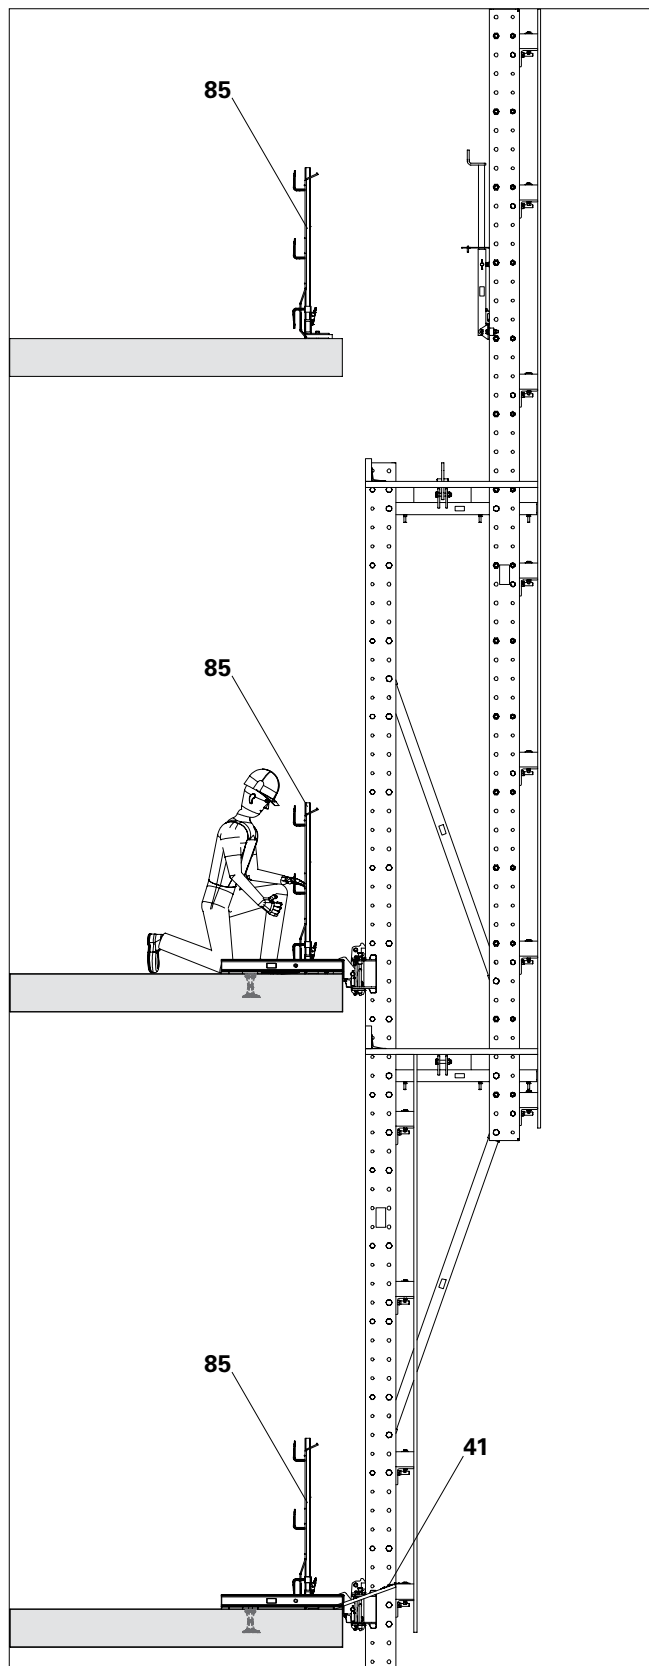

Fig. E.01
3. Mount guardrails (85) on all unsecured slab edges.
4. Remove cover mats, fold up and secure foldable covers (41).
- (Fig. E.01)